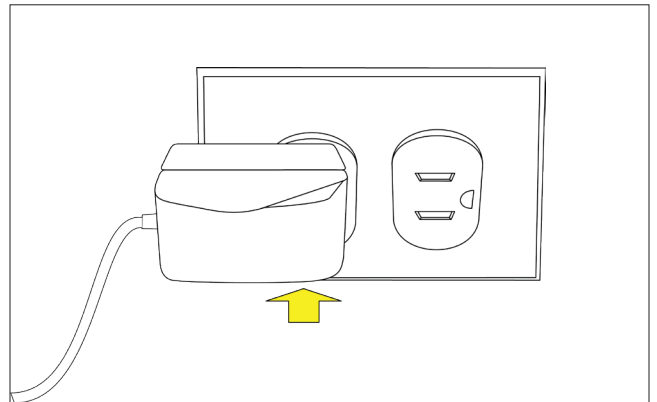

Figure 6. Connect the ac adapter to a wall outlet.
- (d) Plug the ac adapter into a wall outlet. See Figure 6.